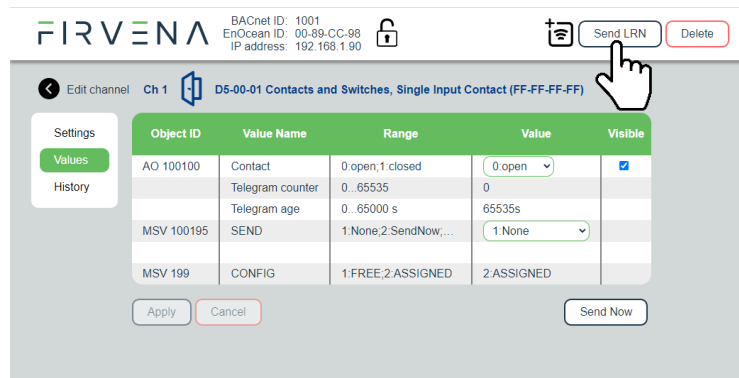

Fig. 6.6 Virtual device – send teach-in telegram
1. Click on the channel 1 box to see channel details (Fig. 6.6)